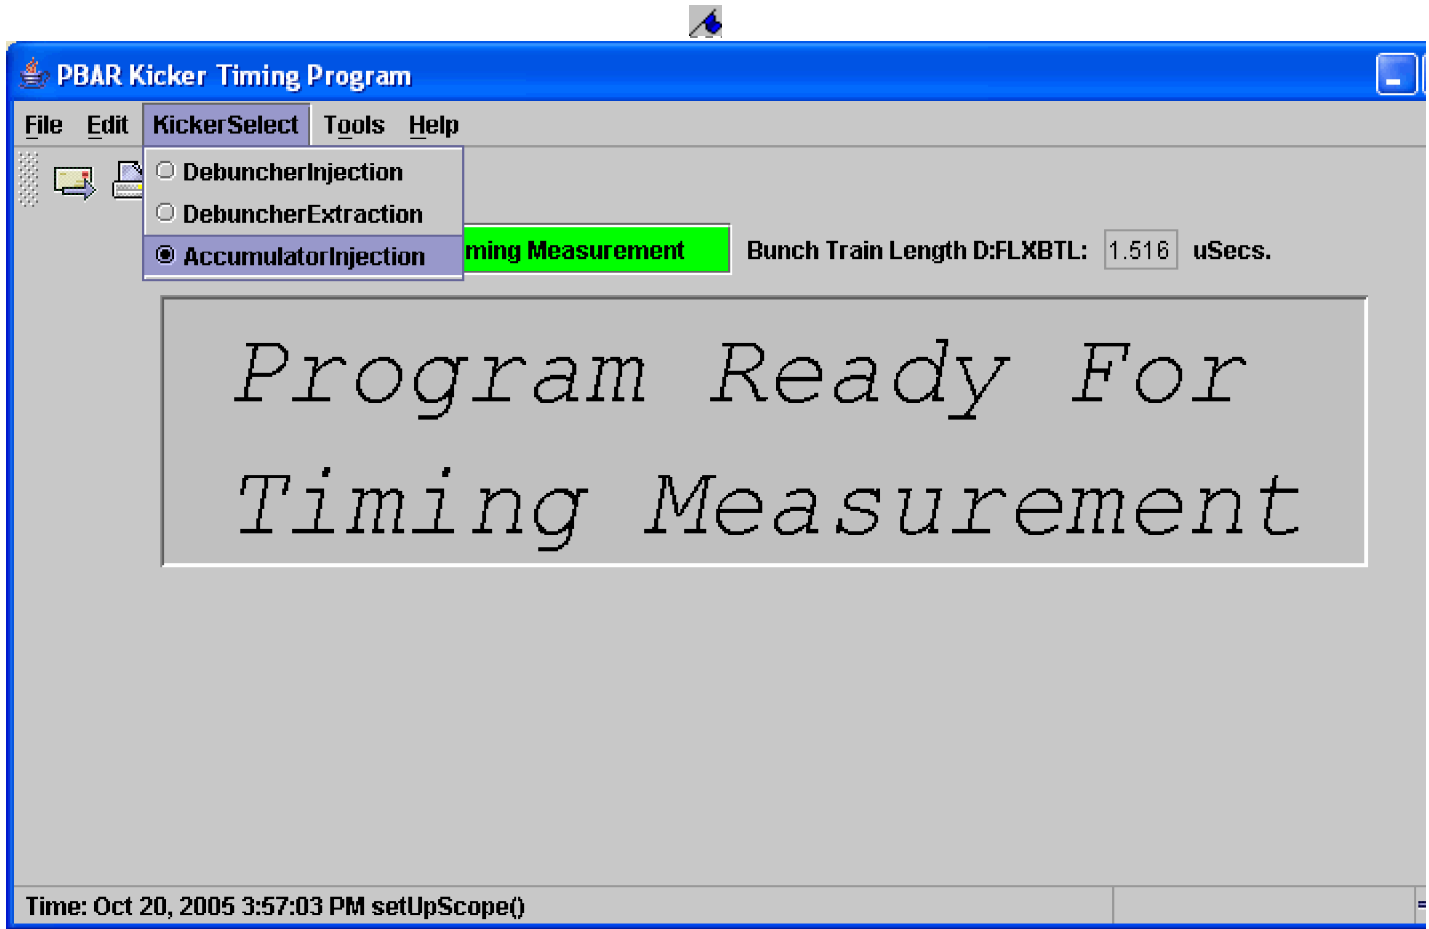

Figure 31:
11. From the Java Kicker Timer Program application, go "KickerSelect" -> "AccumulatorInjection" as shown in Figure 31.